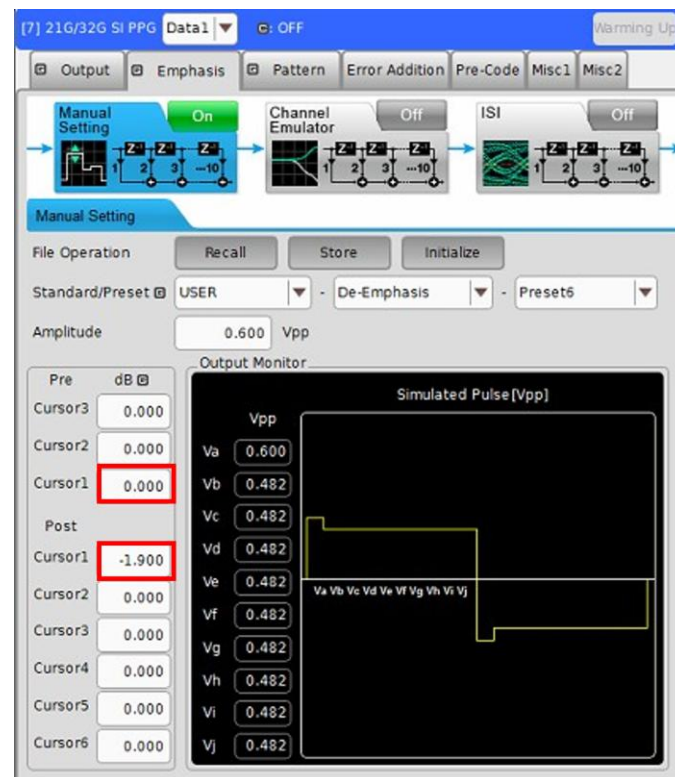

FIGURE 63. DEEMPHASIS CONFIGURATION (2)
Deemphasis Configuration (2)	Preshoot Disabled, Deemphasis Enabled. See Figure 63.